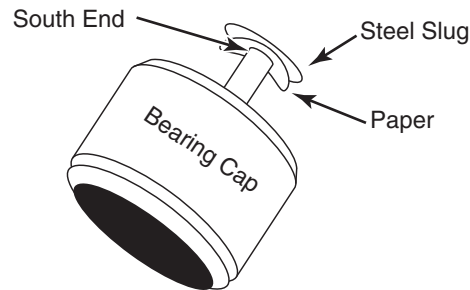

Figure 3
6. Tear off a thin piece of paper, and place it onto the 5/8" diameter steel slug. Place the paper and slug onto the end of the magnets as shown. (See Figure 3.)